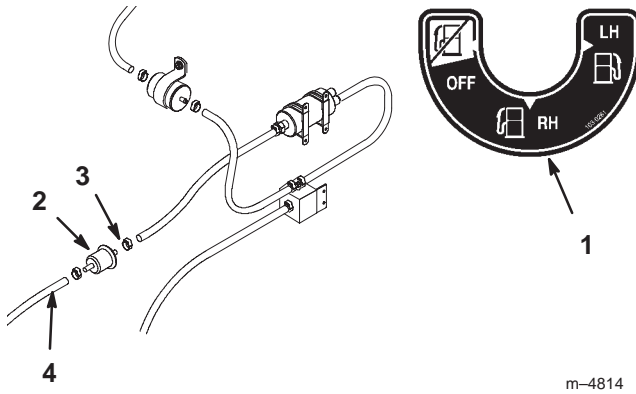

Figure 32
2. Close fuel shut-off valve (Fig. 32).
3. Loosen the hose clamp at the low pressure fuel filter and slide it up the fuel line away from the fuel filter (Fig. 32).
4. Pull the fuel line off low pressure fuel filter (Fig. 32). Open fuel shut-off valve and allow gasoline to drain into a gas can or drain pan.
5. Install the fuel line onto the fuel filter. Install hose clamp close to the fuel filter to secure the fuel line (Fig. 32).